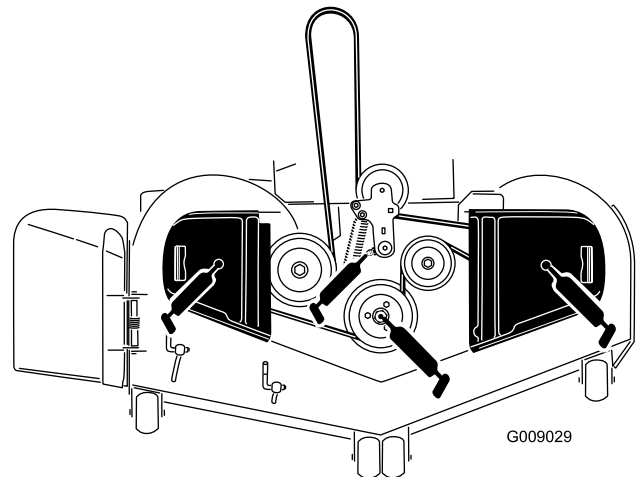

Figure 42
3. Grease the mower deck idler-pulley pivot until grease come out the bottom (Figure 42).
4. Grease the 3 spindle bearings until grease comes out (Figure 42).